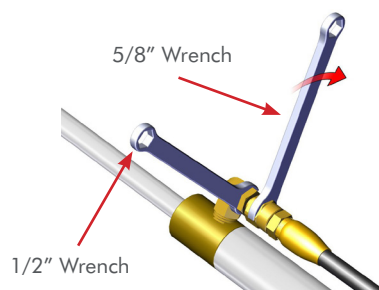

Figure 8
STEP 7 Hand-tighten "Up" cylinder fitting base to hydraulic cylinder. While holding the "Up" cylinder fitting base with a 1/2" wrench, turn the hose fitting clock wise a quarter turn with a 5/8" wrench. (**FIG. 8**)